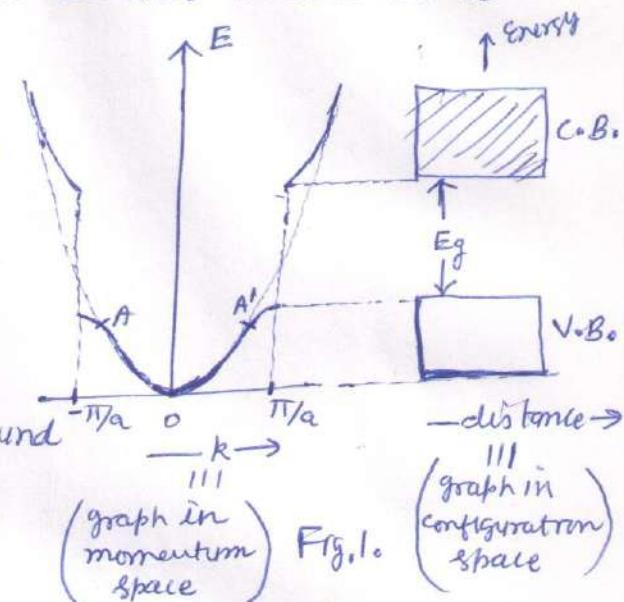

Fig. 1.
The variation of energy of an electron with respect to propagation constant k in the conduction band and valence band is shown in Fig. 1. Equation (1) can also be written as $\frac{1}{m^*} = \frac{1}{\hbar^2} \frac{d^2E}{dk^2} \quad \text{--- (2)}$
Since $\frac{d^2E}{dk^2}$ represents curvature of graph between E & k . Thus from Fig. 1 above, we can make following conclusions